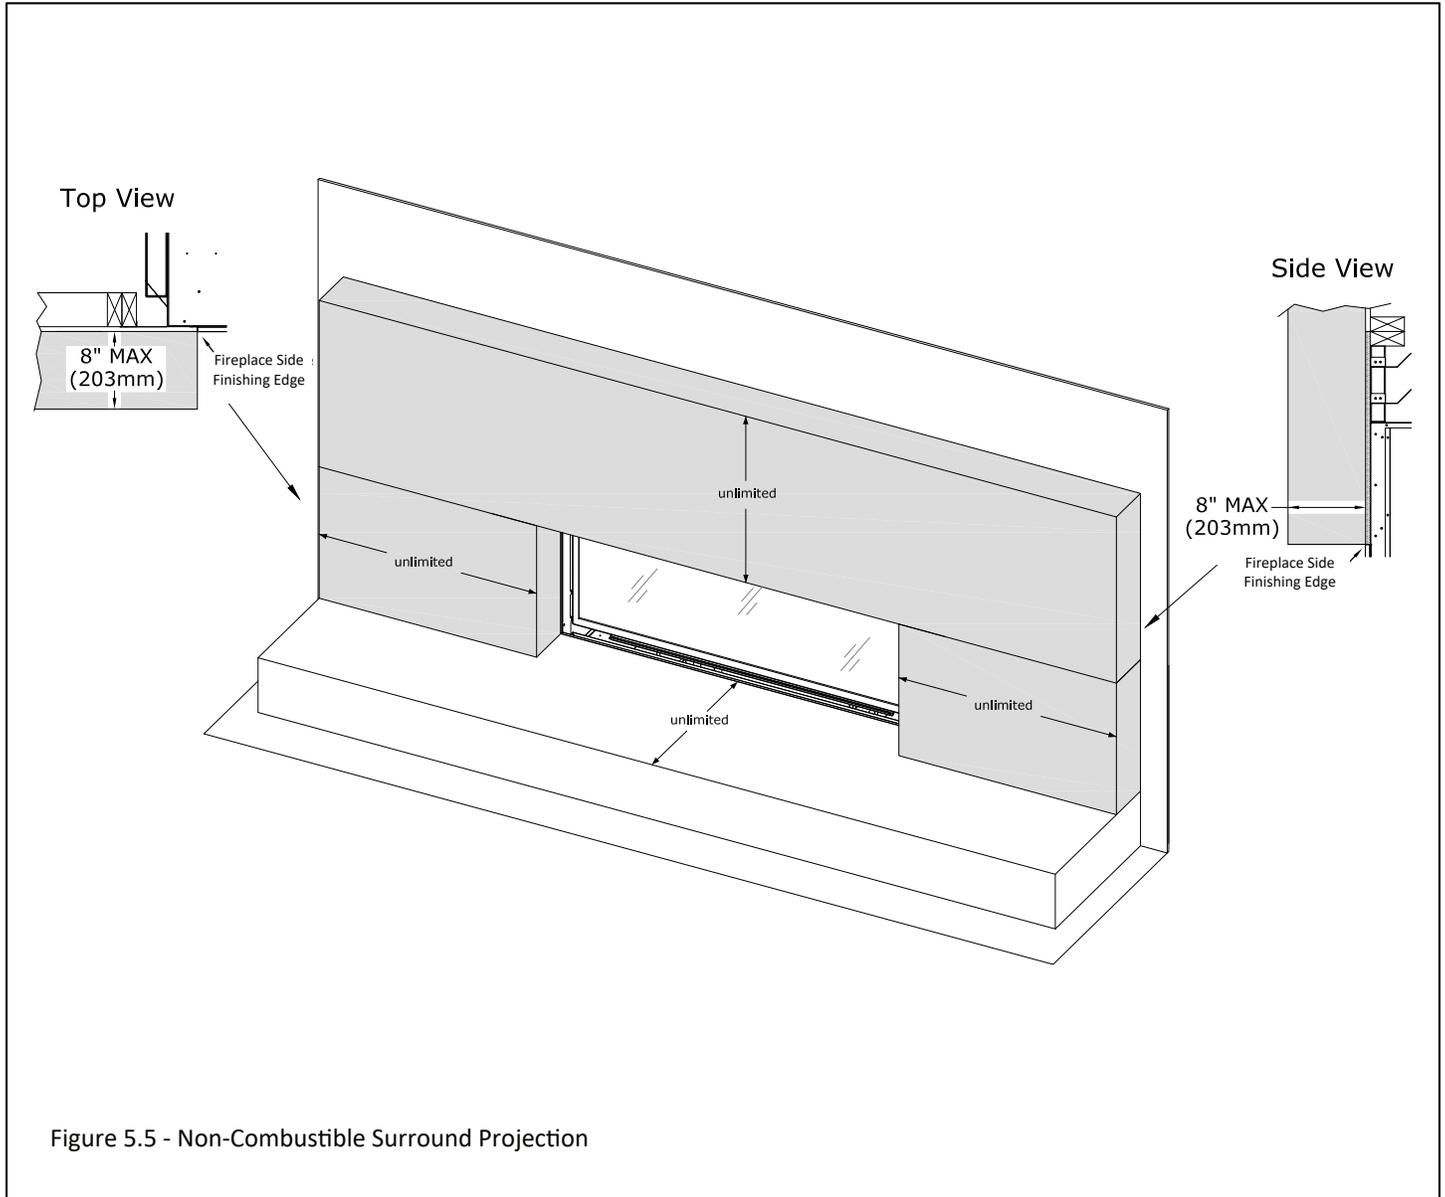

Figure 5.5 - Non-Combustible Surround Projection
- Non-combustible Surround (top and sides of fireplace opening): As referenced in Figure 5.5, the maximum projection of a 8" (203mm) non-combustible surround can be installed at 0" (0mm) from the side and top finishing edge of the fireplace.
Figure 5.5 shows that a maximum of a 8" non-combustible surround is allowed 0" (0mm) from the fireplace finishing edge. The horizontal and vertical dimensions of the surround are unlimited. Figure 5.5 shows the allowance of an unlimited hearth extension.